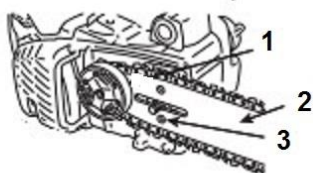
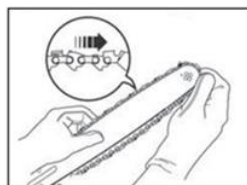
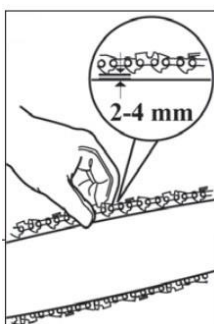

Fig. 3A
Fig. 3B
Fig. 4
- Loosen the chain tensioning screw a few turns (Fig. 1-9) and fit the guide bar (Fig. 3A -2) taking care to match the chain tensioning screw (Fig. 1-9) with the hole (Fig. 3A-3) located on the bar (Fig. 3A-2), then place the chain (Fig. 3A-1) in the perimeter groove of the bar with the cutting edges facing the direction of rotation (Fig. 3B).
3. Tighten the nuts (Fig. 2-2) while holding the front of the bar up (Fig. 3A-2). Check that the chain slides correctly in the bar guide and that it is correctly tensioned by sliding it with both hands. The perfect tension of the chain is when it can be raised in the center by about 2-4mm from the bar, as illustrated in Fig. 4.